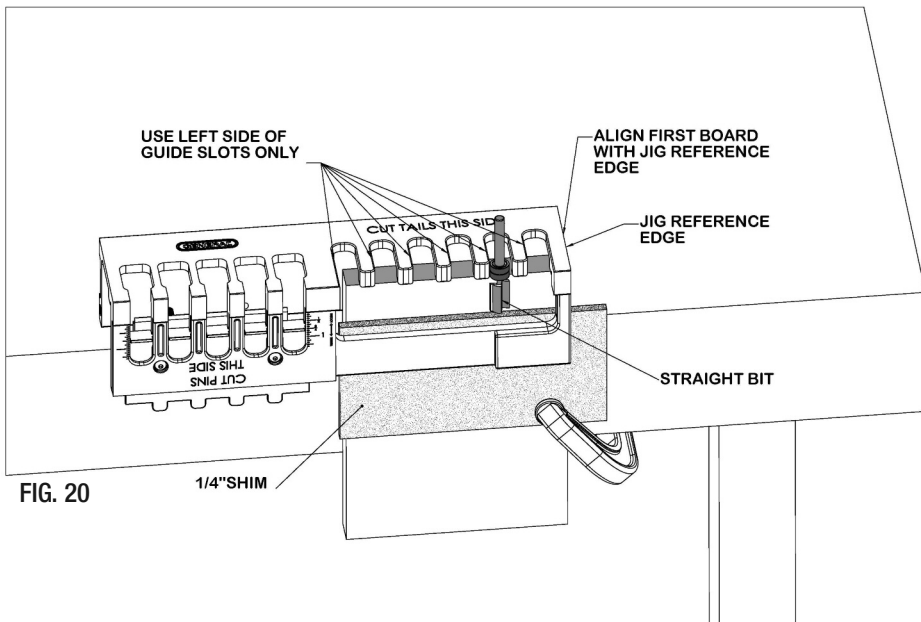

FIG. 20
- Cut the slots in the first board with the board edge set flush with the right hand edge of the jig. (FIG. 20). Make the entry and exit cuts using the left side of the guide slot only (FIG. 20)